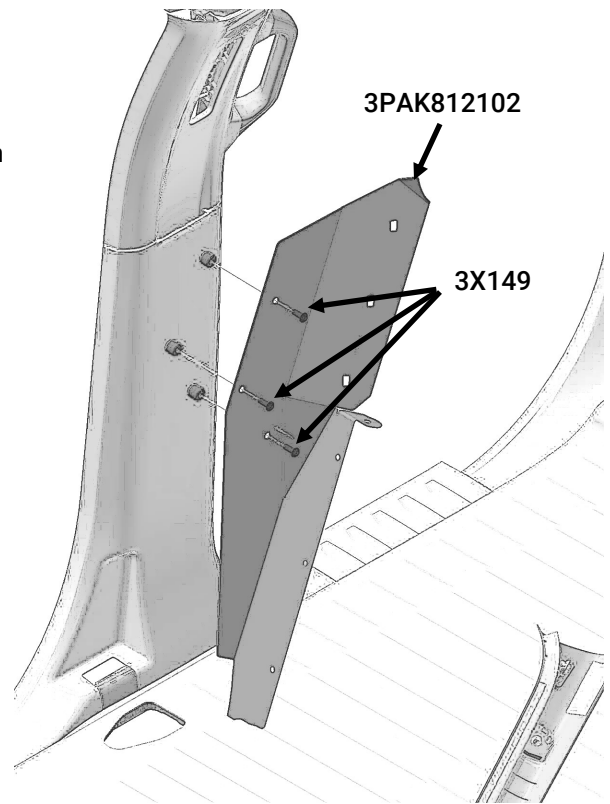

Fig. 2
- A. Locate passenger mounting plate [3PAK812102] aligning the (3) plate holes the (3) standoffs protruding through the B-pillar trim and loosely fasten with (3) 5/16-18 button head screws [3X149] (Figure 2).